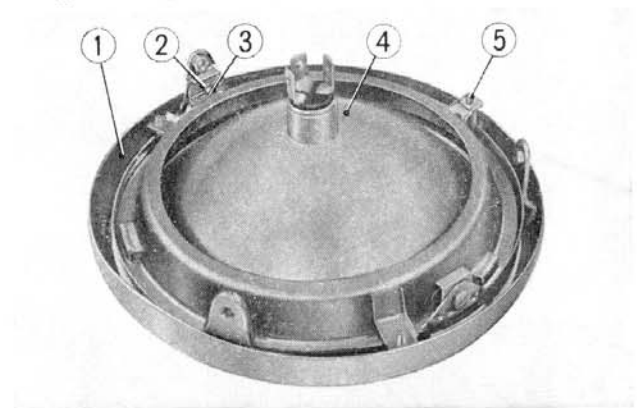

Fig. 16-5 ① Headlight rim ④ Headlight beam unit
3. Unscrew the two headlight units setting screws, the beam adjusting screw and remove the unit from the headlight rim. (Fig. 16-5)
4. Loosen the two headlight screws and remove the beam unit. (Fig. 16-5)